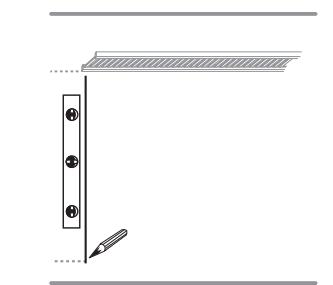

**FIG. 2.0**
2. Mark a line on the wall at the center of the last slat location. (Fig. 2.0)